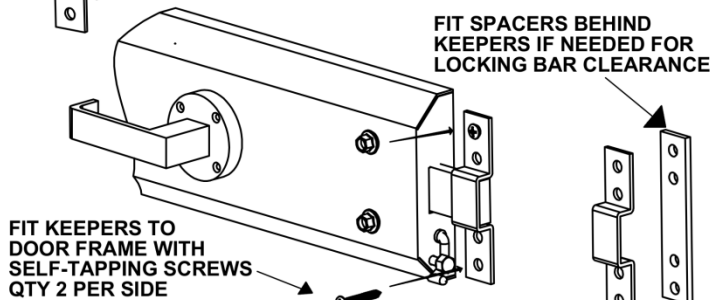

FIGURE 8
20. Fit the keepers to the frame using 14G self-tapping screws in outer holes. Add spacers (provided) behind keepers if necessary to obtain freedom of movement. (Fig. 8) For Series 4 & 5 locks, care must be taken in fixing the strike/ramp on the opening side to ensure that the dome nut on the trigger runs up the ramp & comes to rest on the flat as the locking bars are released.